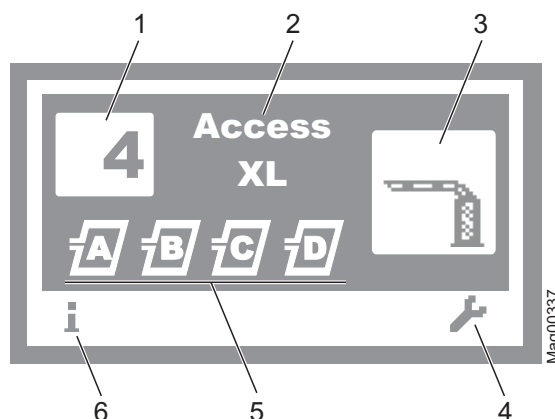

Fig. 45: Example "Operational view"
1. The operating view is displayed. → See page 100, Fig. 45.